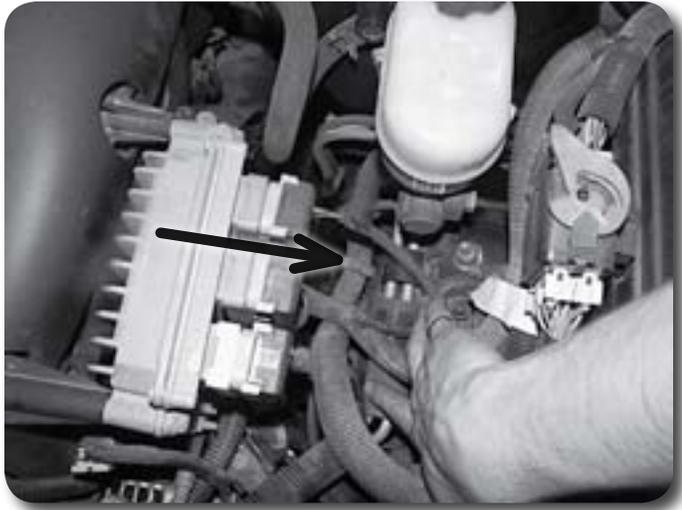

Figure 8
12. Disconnect wire harness Figure 8 from retaining clip on the driver's side (middle of inner fender).